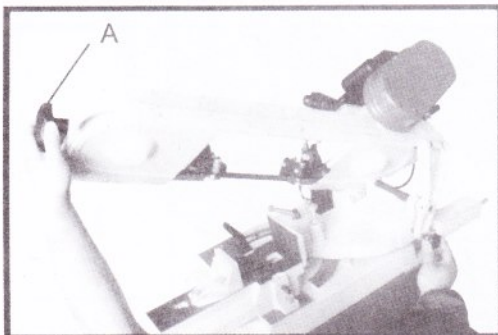

Fig. 5
2. Turn blade tension hand-wheel (A) clockwise to increase or counterclockwise to decrease blade tension. Correct tension is obtained when the blade is just tight enough that no slippage occurs between the blade and the wheels. Fig.5